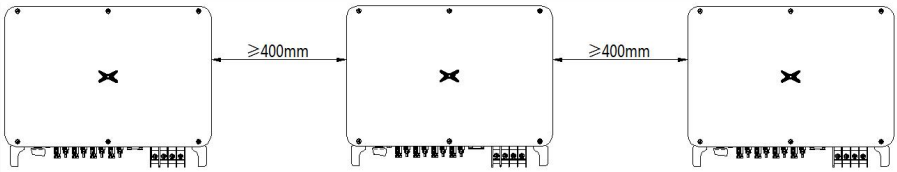

Fig 4.5 Size requirements for side-by-side installation
(4) The installation surface should be perpendicular to the horizontal line, as shown in Figure 4.5. Please install the inverter vertically or backward $\leq 15^\circ$ to facilitate the heat dissipation of the machine. Do not tilt the inverter forward, horizontally, upside down, leaning too far, or tilting to the side.